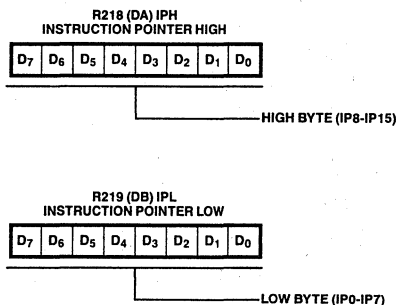

Figure 3-10. Instruction Pointer
The Super8 provides hardware support for implementation of threaded-code languages such as Forth. An important part of that support is in the form of a special register called the Instruction Pointer (IP) (Figure 3-10). The Instruction Pointer is made up of register pair RR218, with R218 holding the most significant byte of a memory address and R219 the least significant byte.